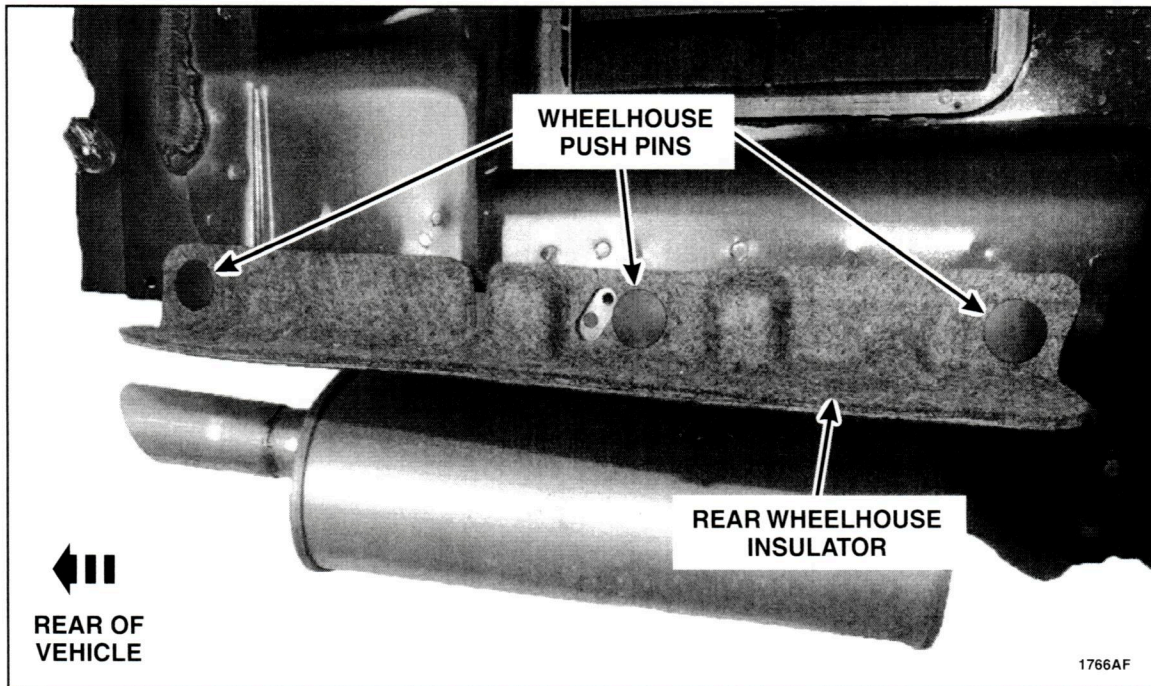

FIGURE 4
4. Reinstall the wheelhouse insulators. The wheelhouse push pins can be reinstalled by removing the lower inner fender well fasteners to gain access to the fasteners. See Figure 4.